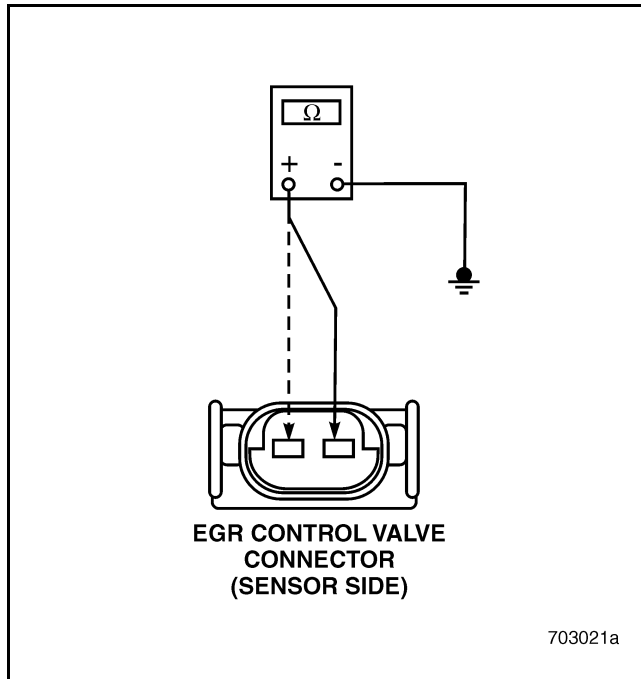

Figure 523
3. Check for continuity from either pin on the EGR Control Valve to a good ground (see Figure 523).